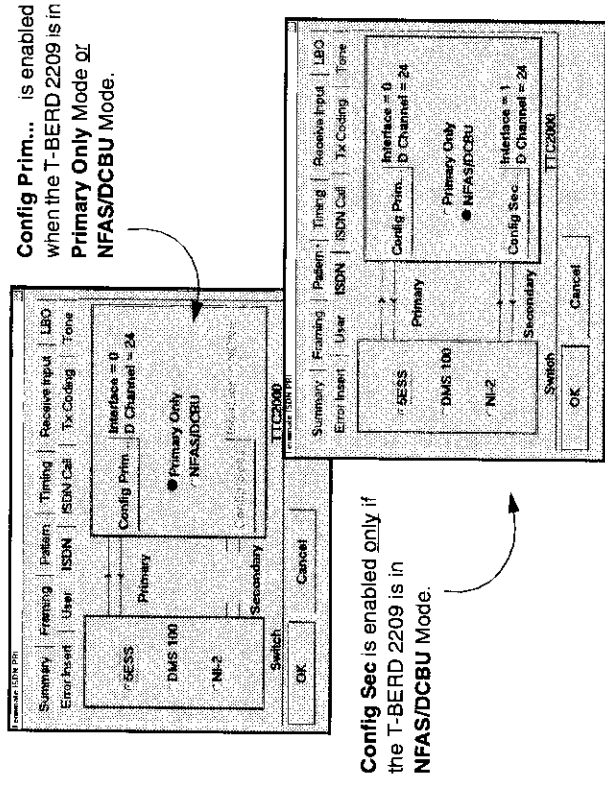

Figure 4-9. ISDN PRI Setup Screen
4. Select the **ISDN** Property Sheet tab. Configure **Call Control**, **D-Channel** test type (**Primary Only** or **NFAS/DCBU**), and the **D-Channel** (s) **DS0s** (see Figure 4-9).
The **ISDN** setup screen (see Figure 4-9) shows a graphical summary of the test setup that matches the selected ISDN application. Press **Config Prim...** or **Config Sec...** to select the Primary, Secondary, and D-Channel selection. Notice that **Config Sec...** is disabled while terminating a single T1, **Primary Only** mode in the **ISDN** property sheet (when setting up for testing in Terminate ISDN PRI).